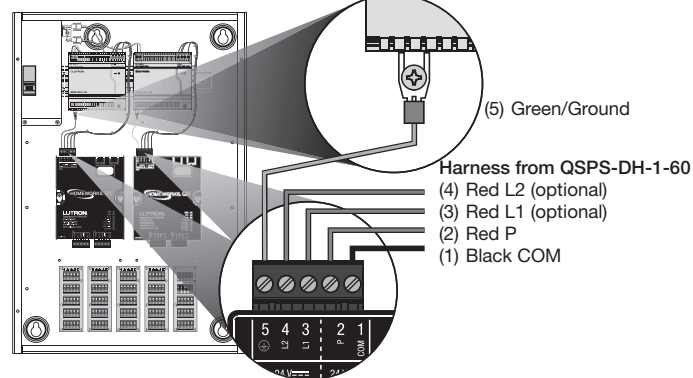

Figure 3 – LED functions
- 5. Verify operation:** Confirm that the unit is powered by referring to the PWR LED on the front of the unit. Further diagnostic information can be obtained from the additional diagnostic LEDs on the unit. Please refer to **Figure 3** for explanation of the diagnostic LEDs.